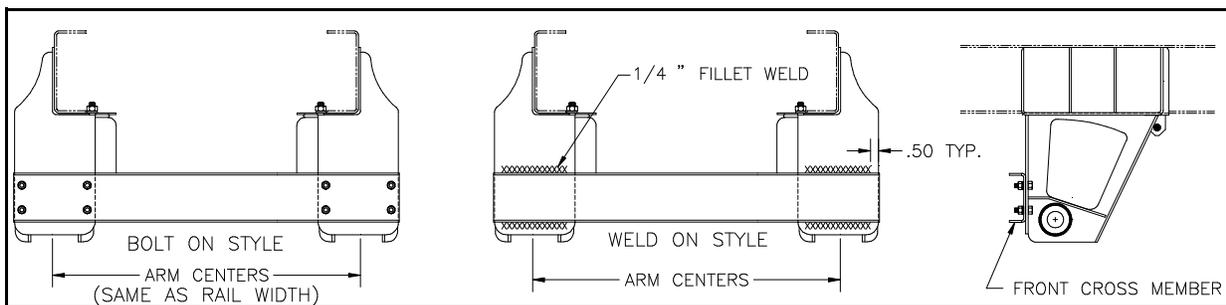

Figure 4-5
9. Check front hangers for proper centers (arm centers) and install front lower crossmember (this will be either bolt on or weld on.) See Figure 4-5